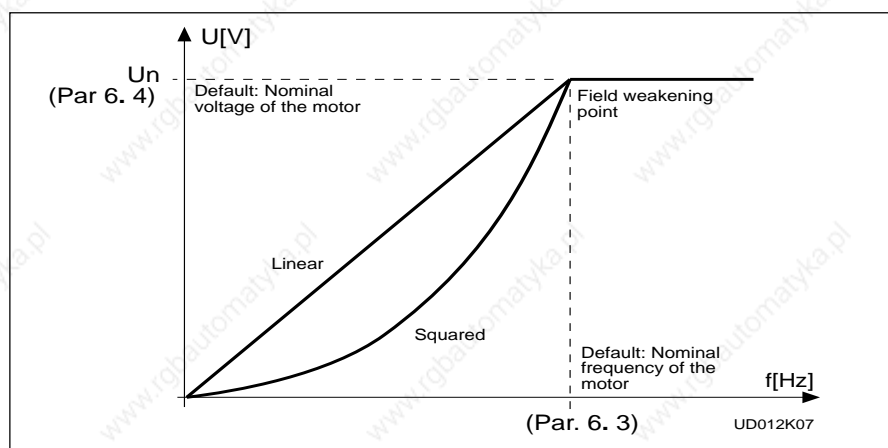

Figure 3.4-1 Linear and squared U/f curves.
**Linear:** The voltage of the motor changes linearly with the frequency in the constant flux area from 0 Hz to the field weakening point (par. 6.3) where the nominal voltage is also supplied to the motor. See figure 3.4-1.
**Squared:** The voltage of the motor changes following a squared curve form with the frequency in the area from 0 Hz to the field weakening point (par. 6.3) where the nominal voltage is also supplied to the motor. See figure 3.4-1.